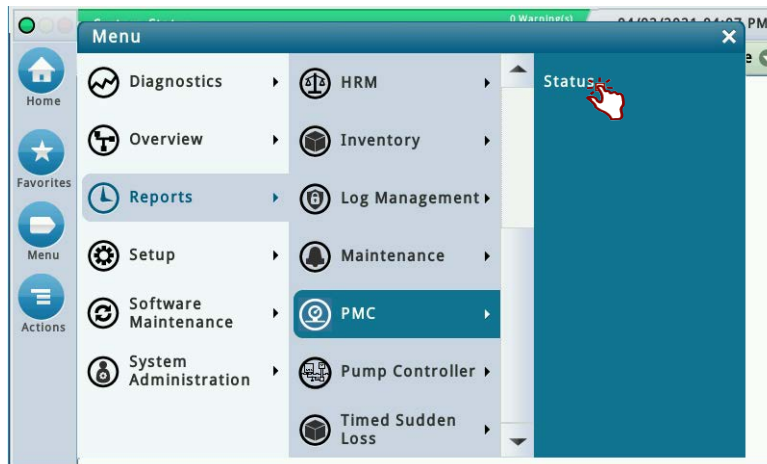
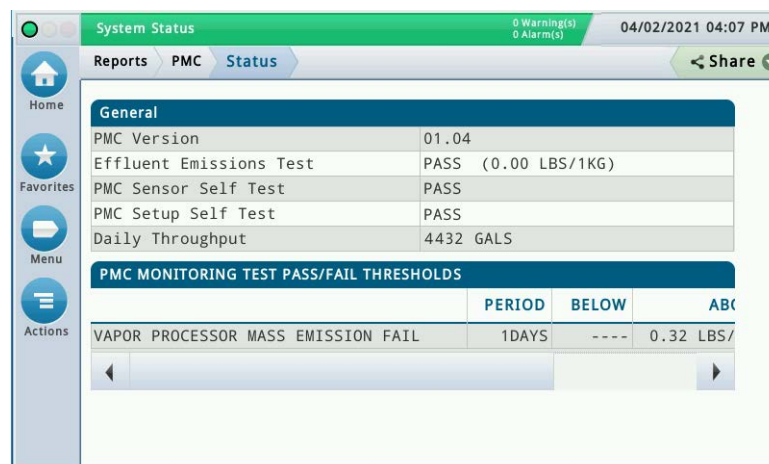

Figure 34. Accessing PMC Report
Figure 35. PMC Status Report Example
1. You can access and view the PMC Status report from the TLS console front panel by touching Menu>Reports>PMC>Status (see Figure 34 and Figure 35).